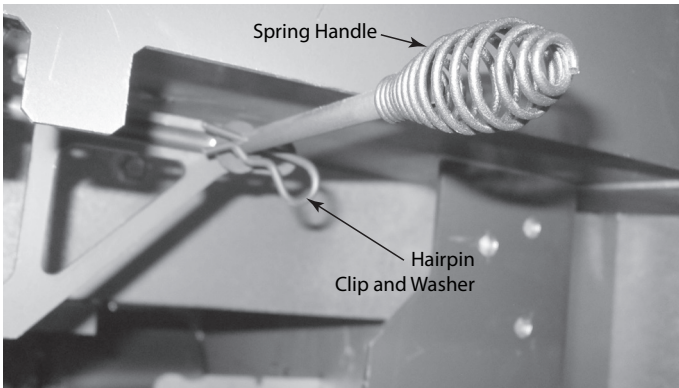

**Figure 4.17 Removal of Spring Handle**
3. Remove the spring handle by twisting it to the left and pulling on it. Hold on to the rod as this is being done. See Figure 4.17.
4. Pull off and remove the front hairpin clip and washer on the rod. See Figure 4.17.